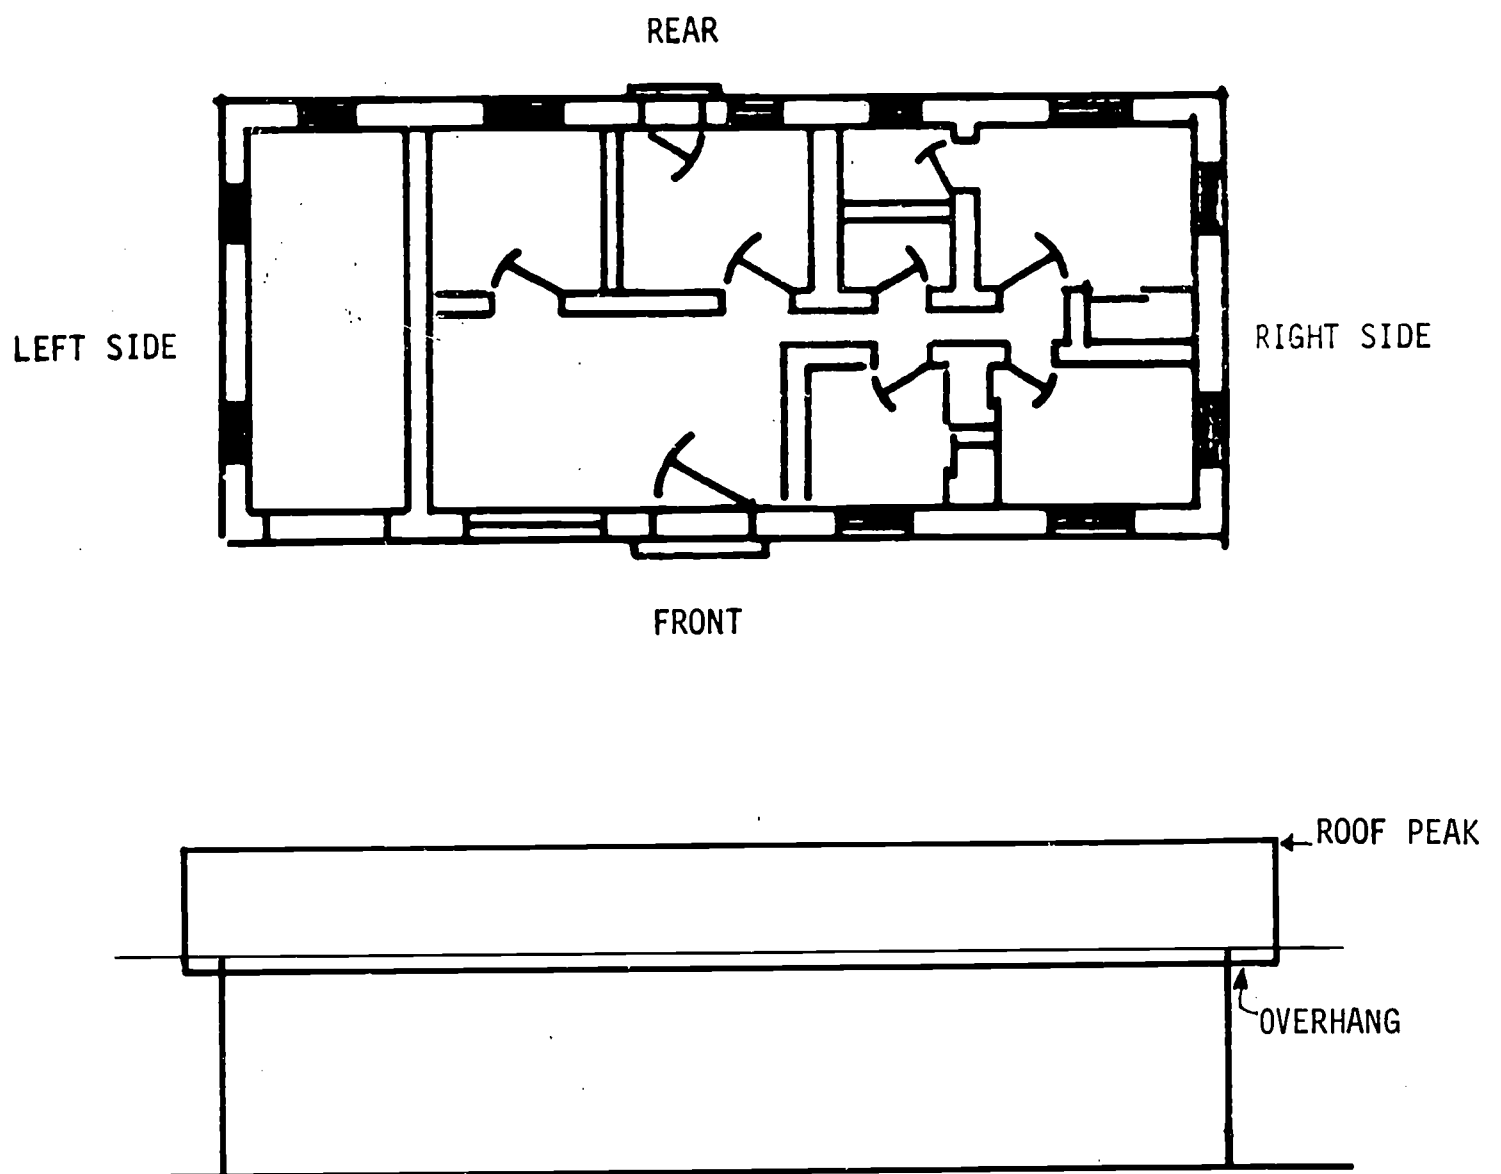

Fig. 79E-8. Drawing Roof Lines
5. Draw the thickness of the roof. See Fig. 79E-9.